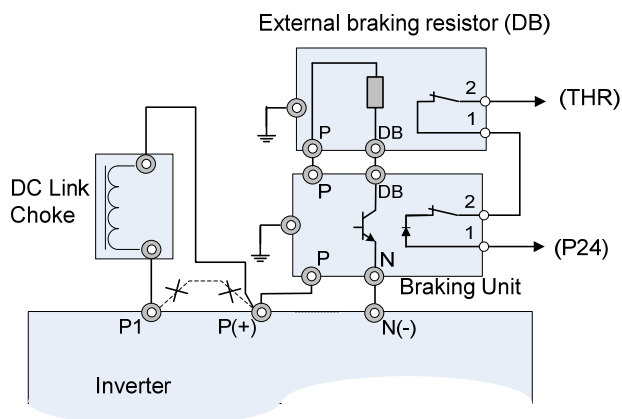

Fig. 2-3-5 Connection (15HP/CT or more)
6. DC link circuit terminals (P (+) and N (-)) (Fig.2-3-5). The EQ5 inverter of 10HP/CT, 15HP/VT or more does not contain a drive circuit for the braking resistor. To improve braking performance, an optional external braking unit and external braking resistor must be installed.